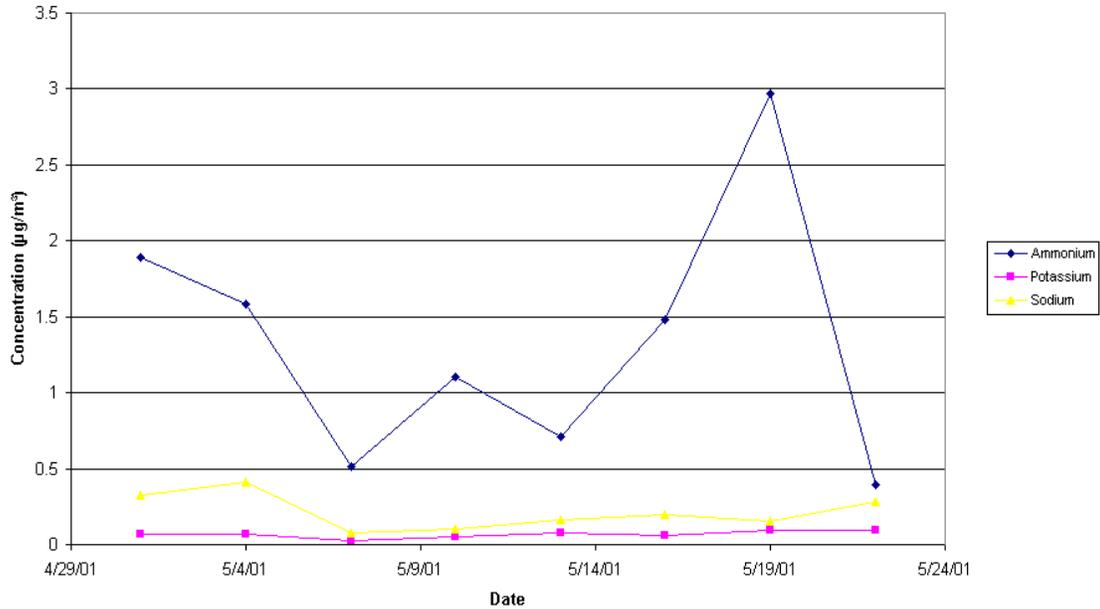

Figure 5-4. XY-line plot generated by the time-series analysis.
- XY (Scatter) Plot (Figure 5-4). Data points are plotted on the x- and y-axes, showing relationships among the numeric values and possible clustering of data. Data points are connected by lines.
Figure 5-4 shows an example of an xy-line plot.